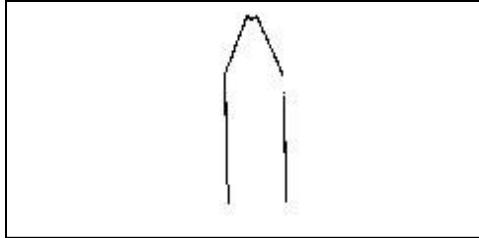

Figure 32: Top View of Ridge Cutter.
1. At this point, install the form tool bit (ridge cutter – see Figure 32) into the tool holder, and center the tool bit. Install the tool holder on the tool post so that the tool bit is perpendicular to the axis of rotation.